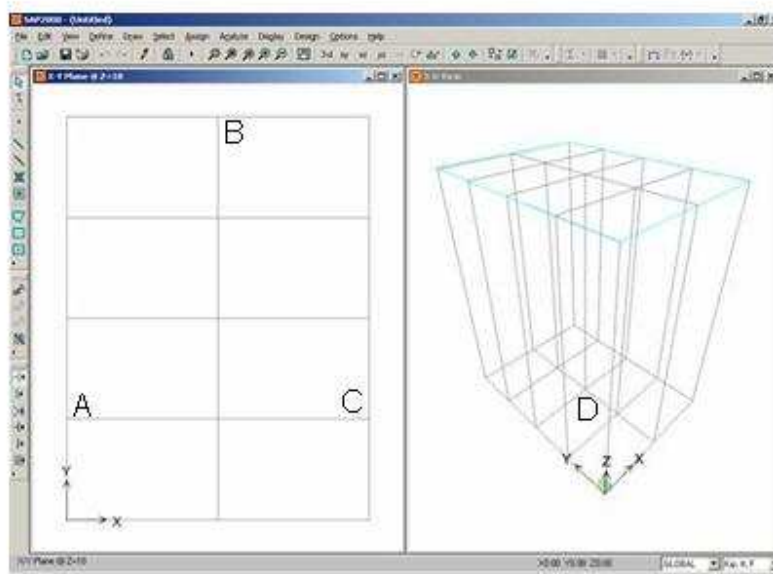

Figure E-1 Screen View Just Before Entering Joints At Elevation Z=10
4. Click in the window entitled X-Y Plane @ Z=10 to make sure it is active. The window is active when the title is highlighted. The screen appears as shown in Figure E-1.
6. Click on the grid intersection labeled "A" in Figure E-1 to enter a joint at (0, 2, 10).
7. Click on the grid intersection labeled "B" in Figure E-1 to enter a joint at (3, 8, 10).
8. Click on the grid intersection labeled "C" in Figure E-1 to enter a joint at (6, 2, 10).
10. Click on the grid intersection labeled "D" in Figure E-1 to enter a joint at (3, 4, 0).